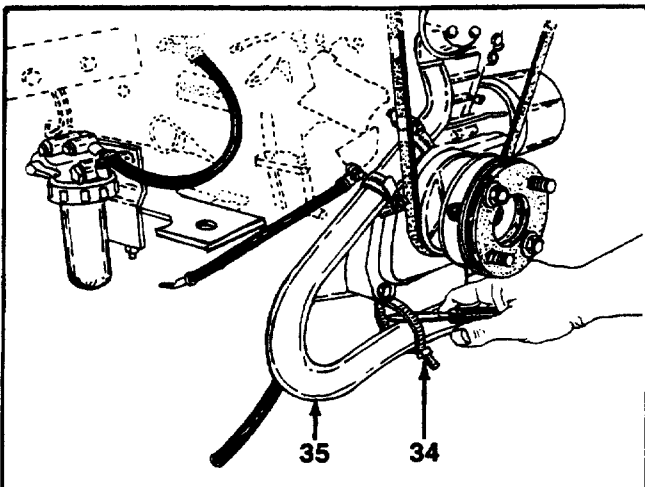

FIGURE 21.
19. Cut the cable tie at the lower radiator hose. See figure 21.